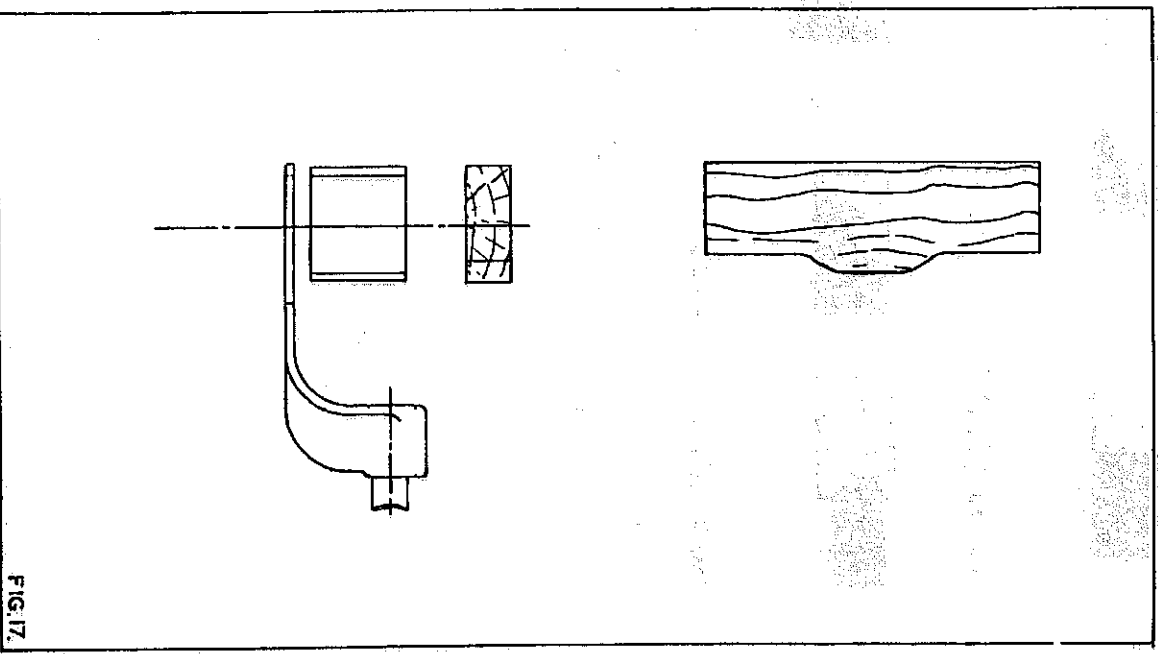

FIG. 17.
**CIRCULAR CUTTERBLOCK WORK FIG. 17**
The cutterblock is mounted on the 1½" (30mm) diameter loose top piece and set so that cuttertrack is in line with the ring fence as shown in Fig. 17. The guard is then set to cover up block and top piece leaving only sufficient room for work to pass underneath.